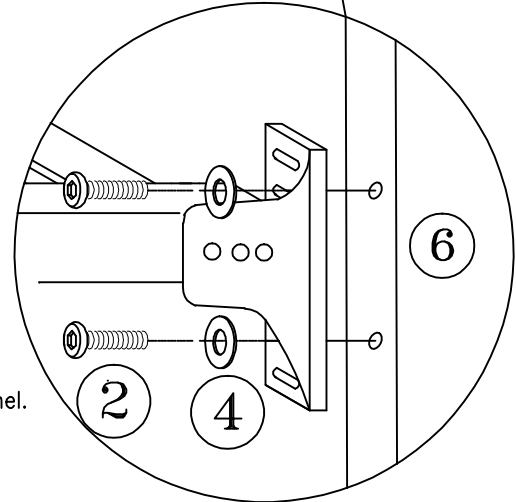

FIGURE 3
- For each post use 2 screws (2), 2 metal washers (4) loosely tighten. (See Figure 3)